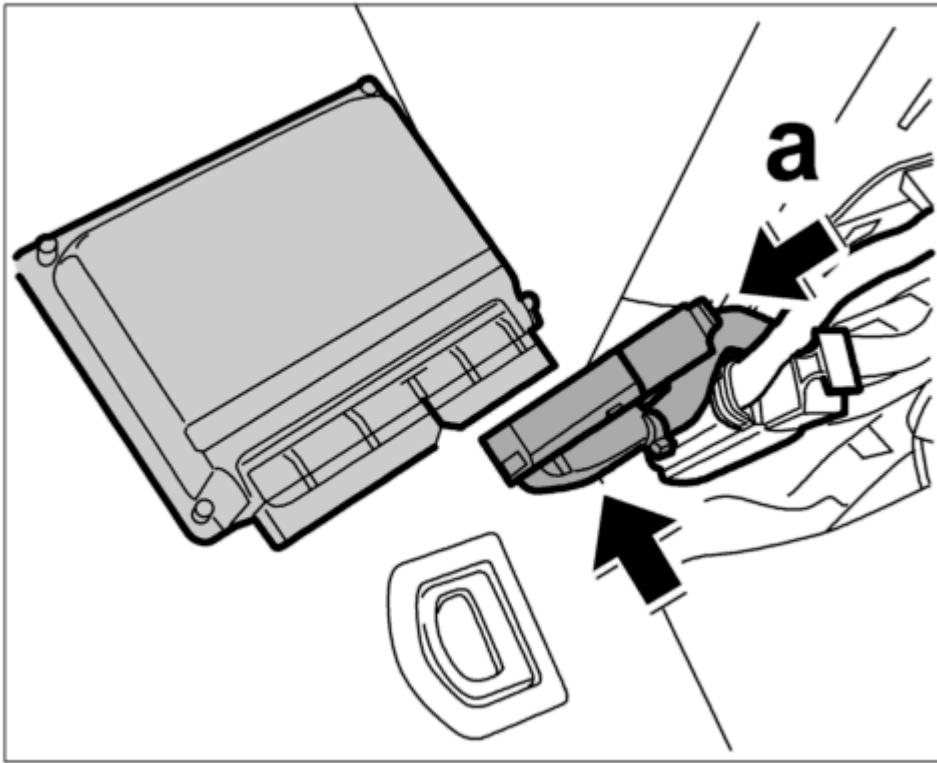

Fig. 61: Push plug on at the bottom of the level control module.
1. First place the smaller plug on the control module and slide in the latch -a- . See **Fig. 61.**